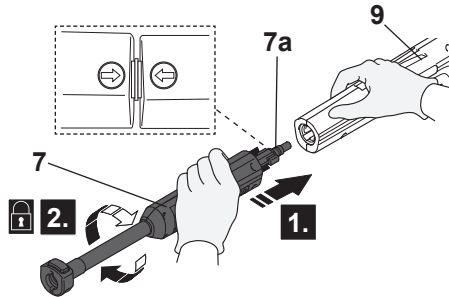

Fig. 4
1. Align and insert the tongues (7a) of the extension lance (7) into the grooves of the spray gun (9) connection port. (Fig. 4, step 1).
2. Securely fit the extension lance (7) by turning it clockwise to lock it in place (step 2). Ensure the arrow on the spray gun aligns with the arrow on the extension lance.